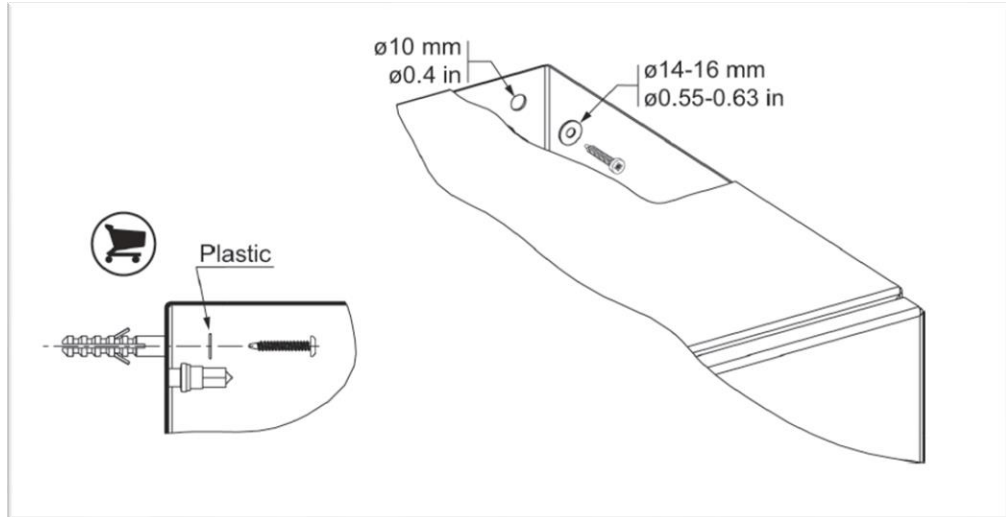
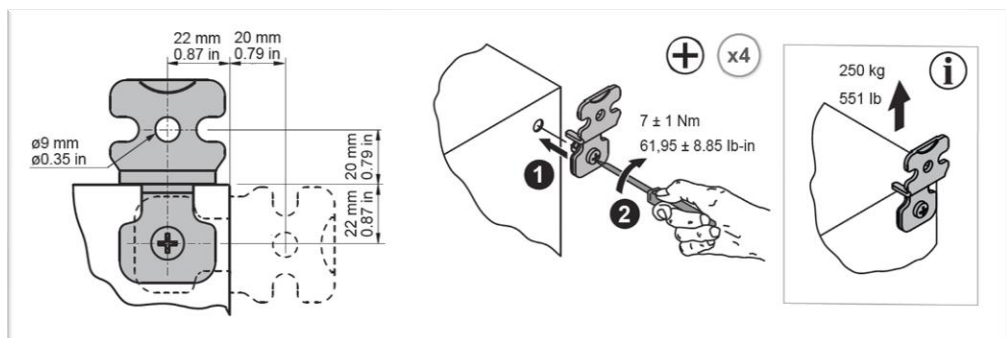

Figure 2. Direct Fixing
Figure 3. Mounting Brackets
- 5.6 Fix to wall directly as shown in Figure 2 or using fixing brackets as shown in Figure 3